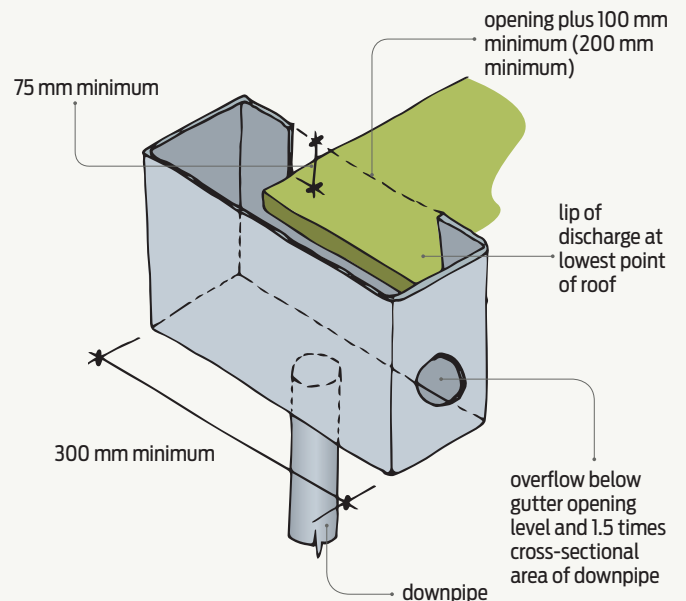
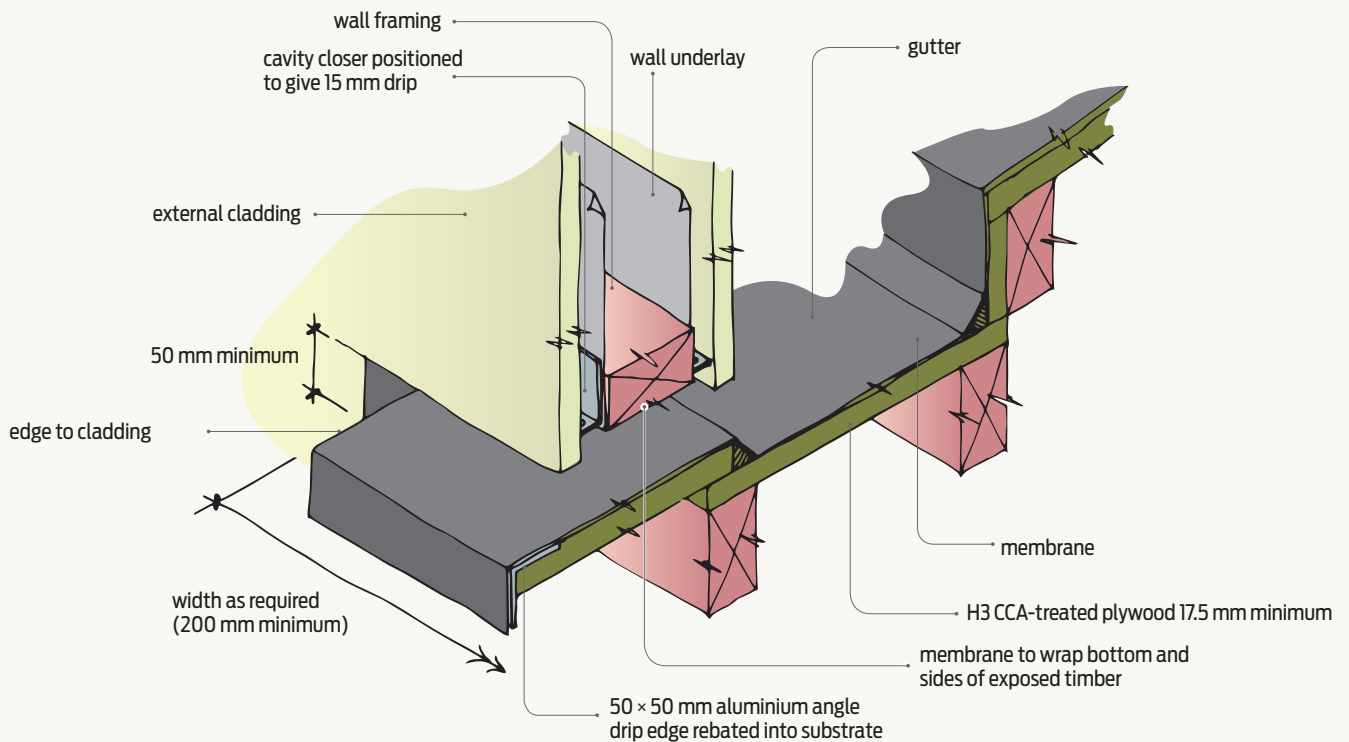

Figure 3 Rainwater head.
Figure 4 Overflow located below any potential overflow into building (from E2/AS1).
E2/AS1 (8.1.6.1) requires all internal gutters to have a minimum 1:100 slope. With the exception of membrane roofs, water from internal gutters must discharge into a rainwater head or to an internal outlet (as shown in E2/AS1 Figures 63(a) and (b) and Figures 64(b) or (c)) (see Figure 3). Where an internal gutter discharges to an internal outlet, an overflow must be provided by second outlet to a rainwater head or an overflow located below any potential overflow into the building (shown in E2/AS1 Figure 63 (c)) (see Figure 4).
- a scupper discharging into a gutter or rainwater head (as per Figure 63(a) and (b)) (see Figure 3).